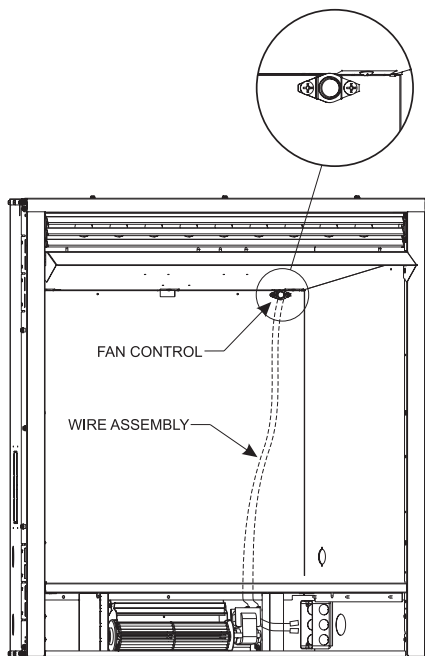

Figure 24
5. Next, find the fan control switch and wire assembly. Feed the wires through the hole at the top of the firebox, and secure the fan control switch with the two screws provided. **See Figure 24.**
6. The fan control wires will slide down between the firebox and outer wrap near the blower assembly. **See Figure 24.**